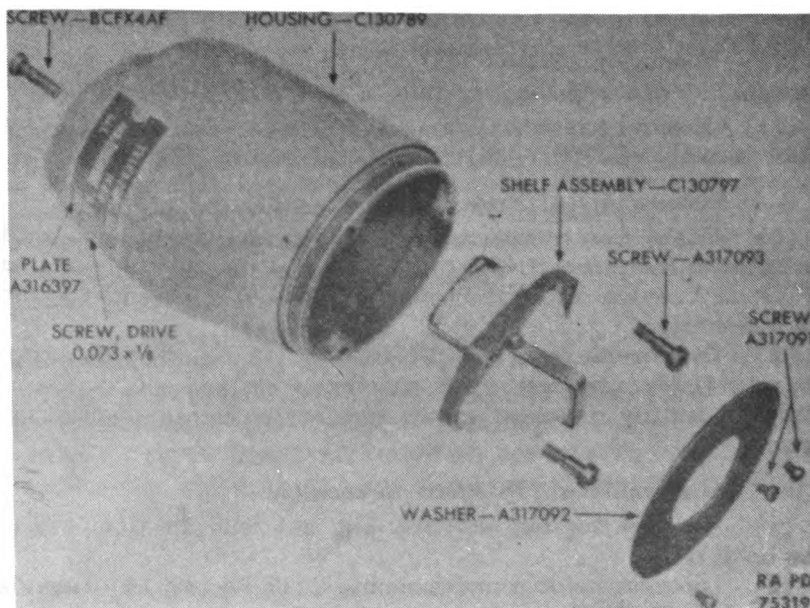

Figure 17—Observation Telescope M49—Prism Housing Assembly C130788 Partially Disassembled
(2) Remove the washer A317092 (fig. 17) that serves as a diaphragm, by first removing the three screws A317091 that hold it.
(3) Remove screws A317093 and BCFX4AF that hold the prism shelf assembly C130797 (fig. 17) and remove the shelf assembly.